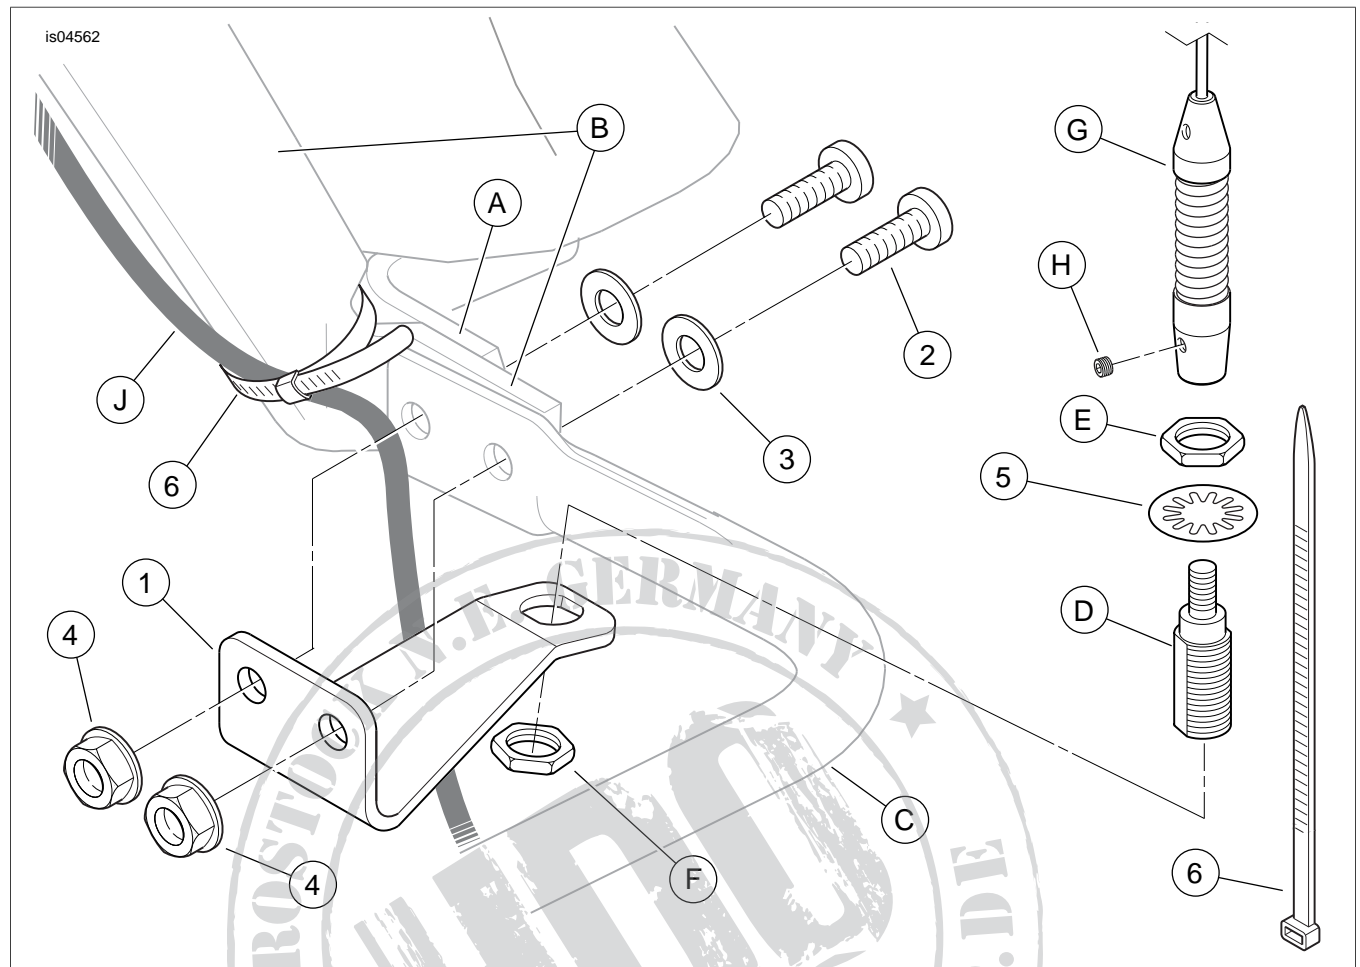

Figure 2. Service Parts, Antenna Relocation Kit
See Figure 2 and Table 1.
3. Use a 2 mm hex key to loosen the bottom set screw (3) of the antenna mast (2). Unscrew the mast from the antenna base, and set it aside for re-installation.
4. Remove the lower locknut (4), and remove the antenna base from the mounting bracket (6). Save both locknuts, but discard the lockwasher (5).
5. Remove the two screws (8) and lockwashers (9) retaining the antenna mounting bracket and trim (7) to the saddlebag rear support bracket (10). Discard the bracket, trim and fasteners.
7. Support the left-side muffler in the installed position with a wood block or other suitable method. Remove and discard the two pan head screws and nuts (11) that fasten the lower saddlebag support bar to the saddlebag rear support bracket.
8. See Figure 2. Obtain the **new** antenna bracket (1), and two button head screws (2), flat washers (3) and flange nuts (4) from the kit. Assemble a flat washer to the threads of each screw.
9. Position the antenna bracket as shown to the forward side of the lower saddlebag support bar (C). From the rear, insert the threads of one screw through the saddlebag-to-fender support bracket (A), and the inboard hole in the saddlebag rear support bracket (B) and saddlebag support bar. Insert the remaining screw through the outboard hole in the support bracket and bar.
11. Place the internal tooth lockwasher (5) from the kit onto the larger threads of the antenna base (D, removed earlier), under the hex nut (E), and insert the antenna base through the hole in the antenna mounting bracket.
12. Install the second hex nut (F) onto the threads of the antenna base. Place a wrench on the upper nut and tighten the lower nut to 6 ft-lbs (8 Nm).